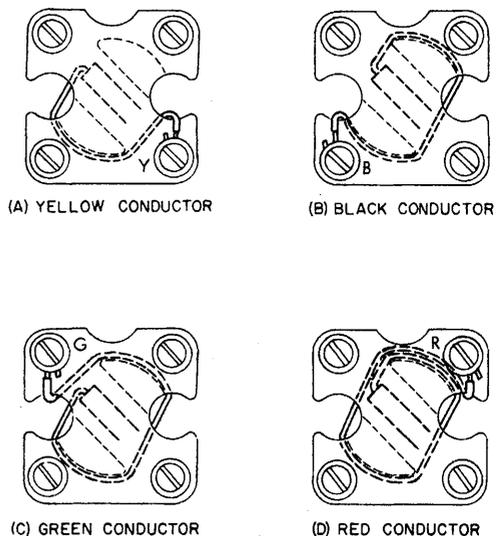

Figure 27. Terminating Station Wire on Number 39-M or 42A Connecting Block (Wire Entry from Same Side as Cord Entry.)
7.04 If the station wire approaches a number 39-M or 42A block from the same direction as that to be taken by the line cord, the jacketed or twisted portion should extend through the channel formed between the mounting bosses, with about seven inches of free conductor length emerging from beneath the block at the top. Fan the green and yellow conductors to the left, and the red and black (if present) conductors to the right. As shown in Figure 27, route the yellow conductor down the left hand side and under the edge of the block, across the bottom, passing over the jacketed portion, up the right hand side, out the fanning slot, and down over the surface of the block to terminal Y. Lead the black conductor, if present, down the right hand